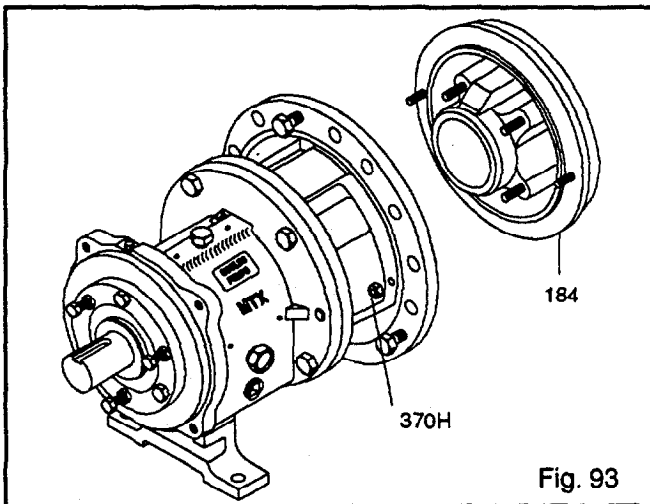

Fig. 93
10. Install clamp ring (253B) with bolts (236A). Tighten bolts in a crisscross pattern. Check shaft for free turning. Refer to Table 9 for bolt torque values (Fig. 93).
11. Install new O-ring (496).